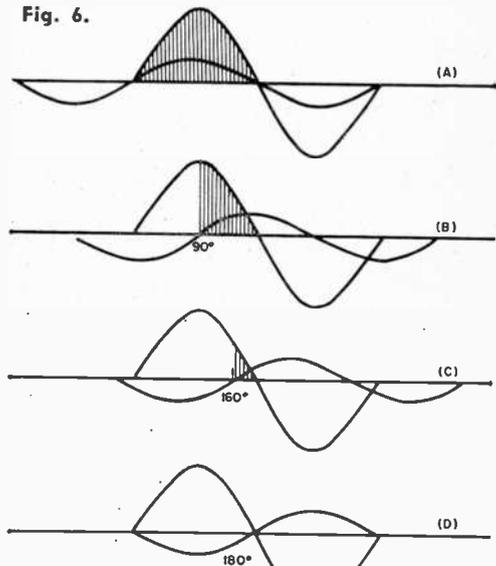

Fig. 6.
Phase-Shift Control. Using an alternating grid voltage of constant amplitude which can be *shifted in phase*, the thyatron average current can be varied from maximum to zero. Figure 6 shows how a phase-shift grid control voltage affects plate current during a cycle.
In Fig. 6(A), the grid voltage is in phase with the plate voltage so that the tube fires for a full 180° (one-half cycle). When the grid signal is 90° out of phase with the anode voltage, the thyatron firing period is approximately 90° long (one-quarter cycle) as in (B). Figure 6(C) shows a 20° conduction interval when the grid voltage is 160° out of phase with the anode supply voltage.
A basic uni-directional thyatron servo control is shown in Fig. 8. Assume that the transformer turns ratios and polarities are such that, with no error signal introduced, the resultant voltage applied to the thyatron grid is at least equal to the critical voltage and out of phase with the anode potential, as in Fig. 6(D), so that no conduction occurs at all. For this condition, the motor will be supplied with zero power and will not turn.
As soon as the error signal appears, the resultant grid voltage undergoes a shift of phase, possibly to the condition given in Fig. 6(C), so that a small current now flows through the motor. This current will drive the motor in the direction which reduces the error signal. If the error signal is larger, the phase shift is correspondingly greater, the conduction interval increases, and the motor turns farther and faster to correct the larger error.